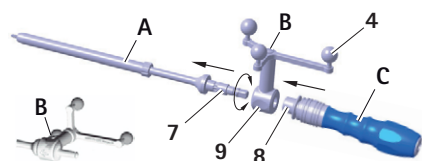

Fig. 6 Mounting the reference star unit ("pre-calibrated") and S⁴C handle onto the S⁴C taper
- Release locking sleeve 8, see Fig. 6.